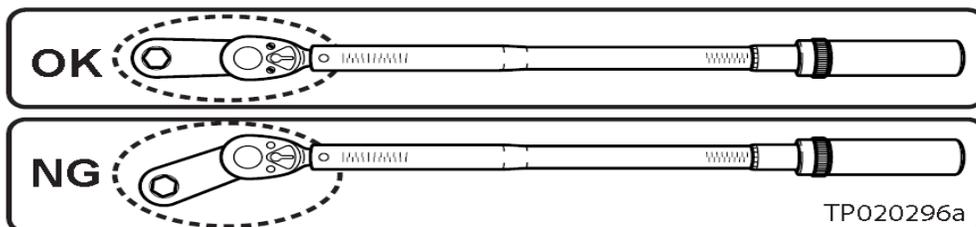

Figure 25
- Make sure you keep the extension tool – J50991 - straight (in line) with torque wrench as shown in Figure 25.